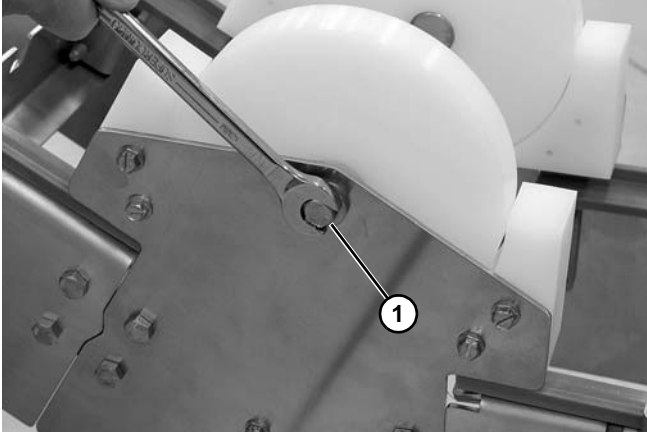
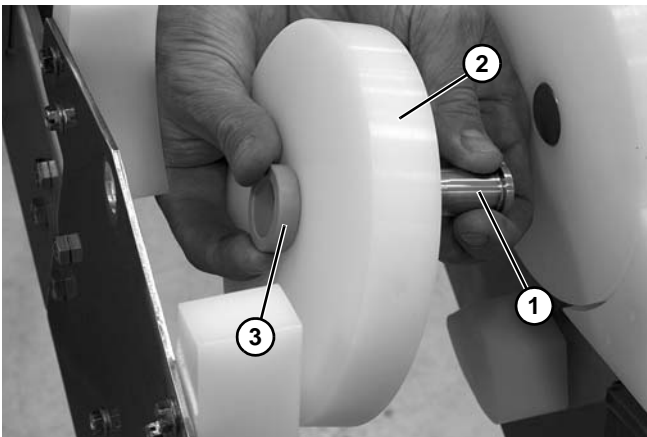

Figure 72
Figure 73
3. Remove screw and washer (**Figure 72, item 1**). Remove stub shaft (**Figure 73, item 1**), hold down roller (**Figure 73, item 2**), and spacer (**Figure 73, item 3**). Repeat on the opposite side of the conveyor.